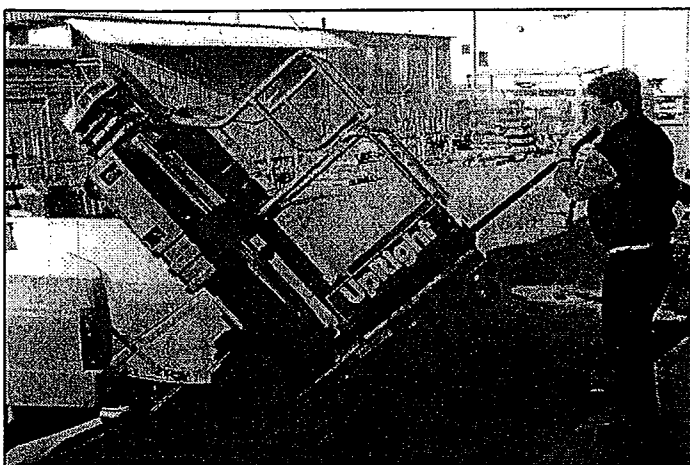

Figure 3-5: Tilting machine onto or off of a vehicle
6. Lift up on the T-handle, using the loader as a pivot, until the unit rotates to a horizontal position in the vehicle bed (fig. 3-5).